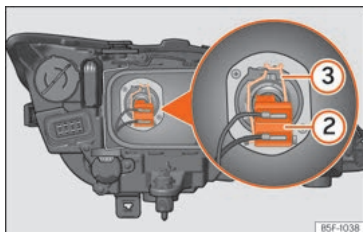

Fig. 107 Dipped beam headlights.
- Remove connector » **Fig. 107 ②** from the bulb.
- Unclip the retainer spring » **Fig. 107 ③** pressing inwards to the right.